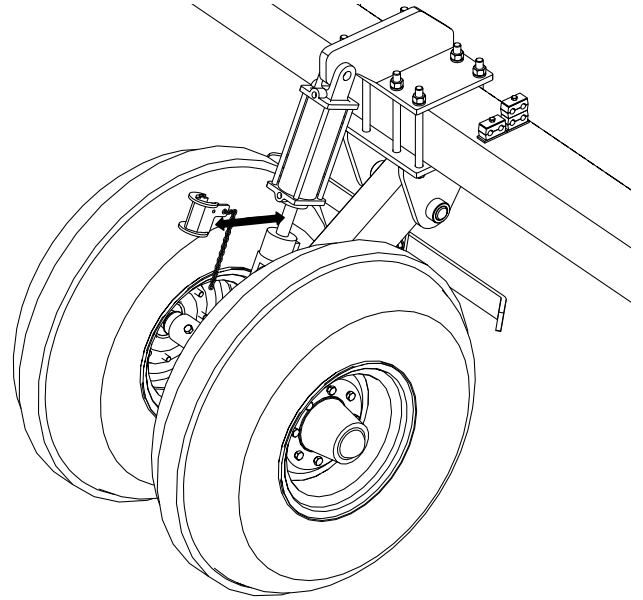

Figure 3 Transport Lock
7. Remove transport locks Figure 3. Store transport locks where they won't get lost.